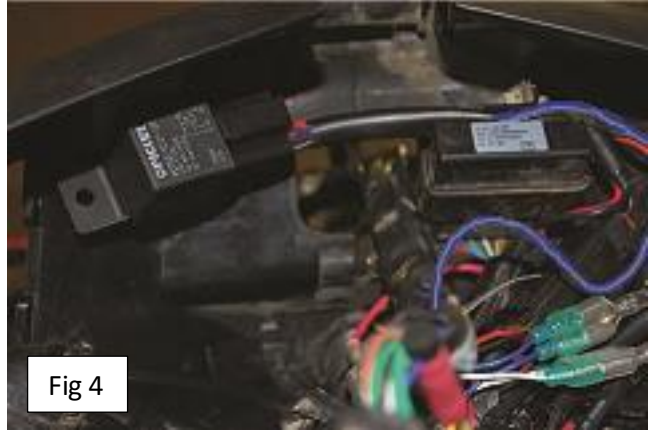

Fig 4
7. Position the relay on the upper inside portion of the headlight bucket above the headlight assembly. Clean the area first. Fig 4